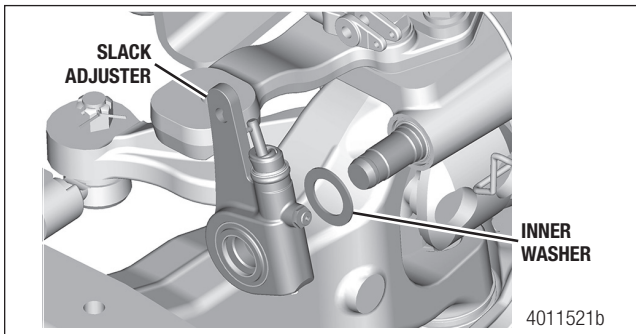

Figure 8.34
2. Install the inner washer onto the camshaft, then install the slack adjuster onto the camshaft. Figure 8.34.